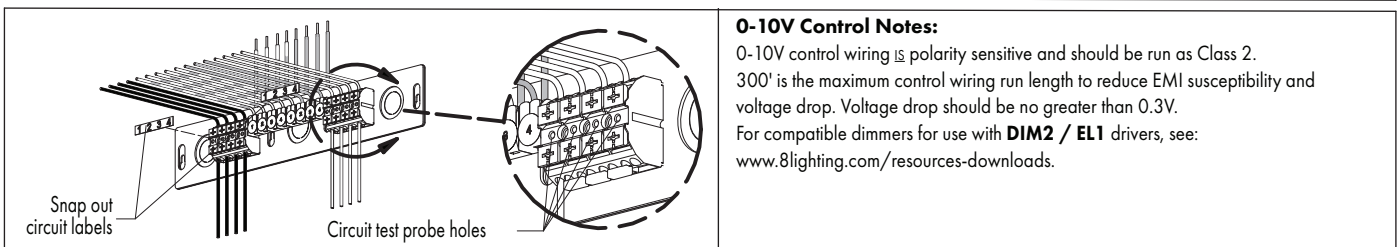

FIG 8.4 Accessing Circuit Probe Holes
3. Check circuit continuity using holes in terminal blocks – FIG 8.4.